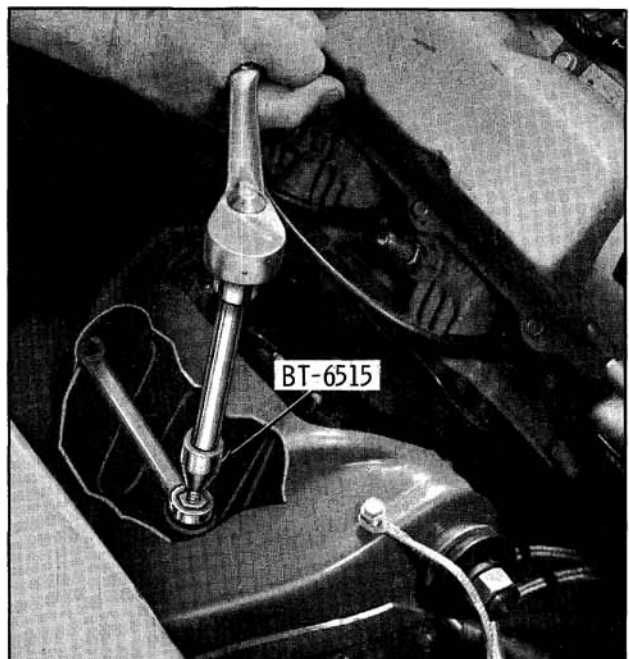

Fig. 9-7 Removing Shock Absorber Upper Attaching Nut
2. Remove upper nut, retainer and grommet from shock absorber. (Fig. 9-7)